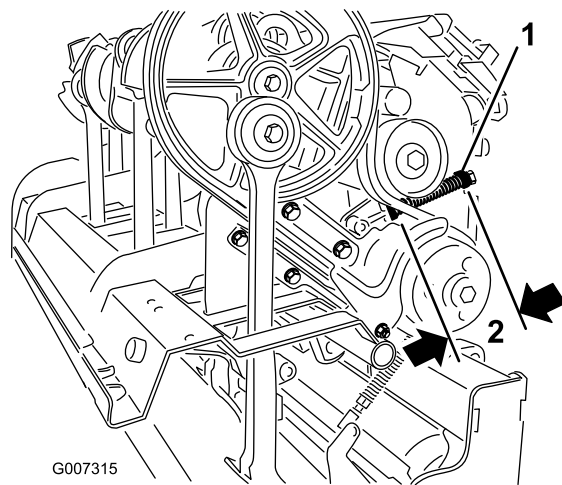

Figure 31
- C. Loosen the lock nut securing the spring retainer (Figure 31).
- D. Adjust the spring retainer to attain required compressed spring length (Figure 31).